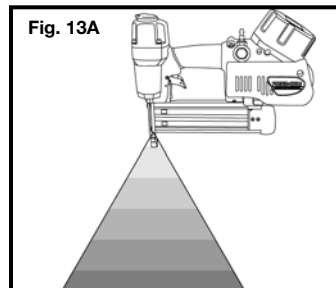

Fig. 13A
23. KEEP HANDS AND BODY PARTS away from area shown in Fig. 13A, to avoid injury.